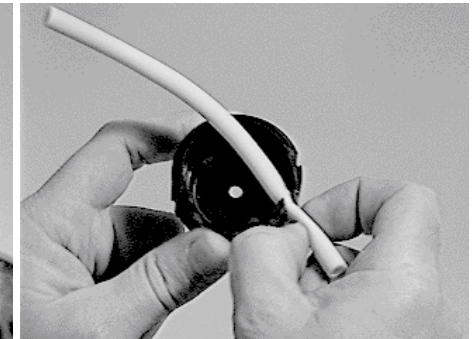

Figure 2
Step 9: Reinstall the tubing by pinching it one inch from an end and inserting it into the outlet port of the pump body. Position the tubing so that an un-worn side will be against the rollers. See Fig. 2.